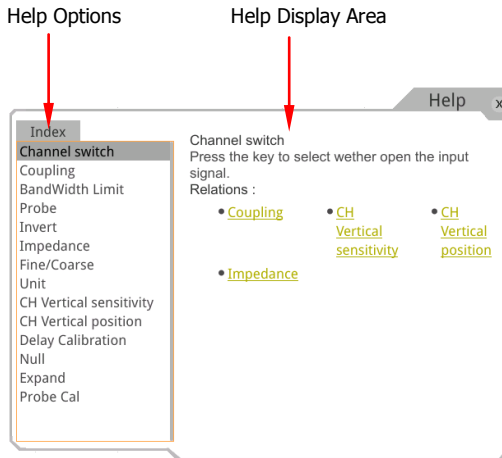

Figure 17 Help Information
2. Press **Help**, and then the help information is displayed on the screen, as shown in Figure 17. The help interface mainly consists of two sections. The left section lists "Help Options", and the right section is the "Help Display Area".